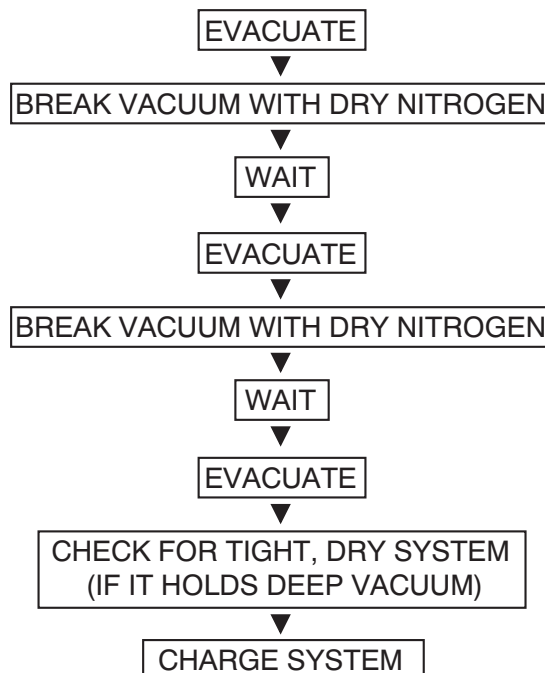

Fig. 20 – Triple Evacuation Method
The triple evacuation method should be used when vacuum pump is only capable of pumping down to 28 in. of mercury vacuum and system does not contain any liquid water. Refer to Fig. 20 and proceed as follows:
5. Repeat this procedure as indicated in Fig. 20. System will then be free of any contaminants and water vapor.